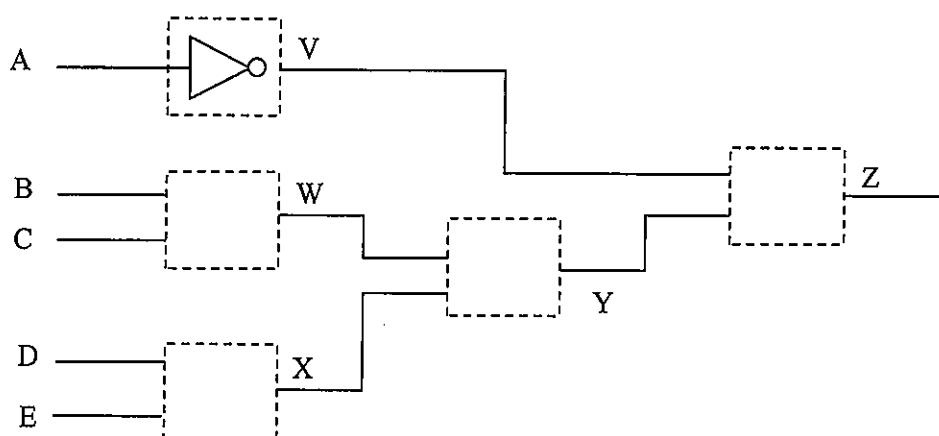

Figure Q2(a)/ Rajah Q2(a)
- Q2. (a) Figure Q2(a) shows a digital circuit where the boxes represent the logic gates. Sketch the appropriate gates in the given boxes correspond to the following statement. [The result of the first statement is shown for reference.]